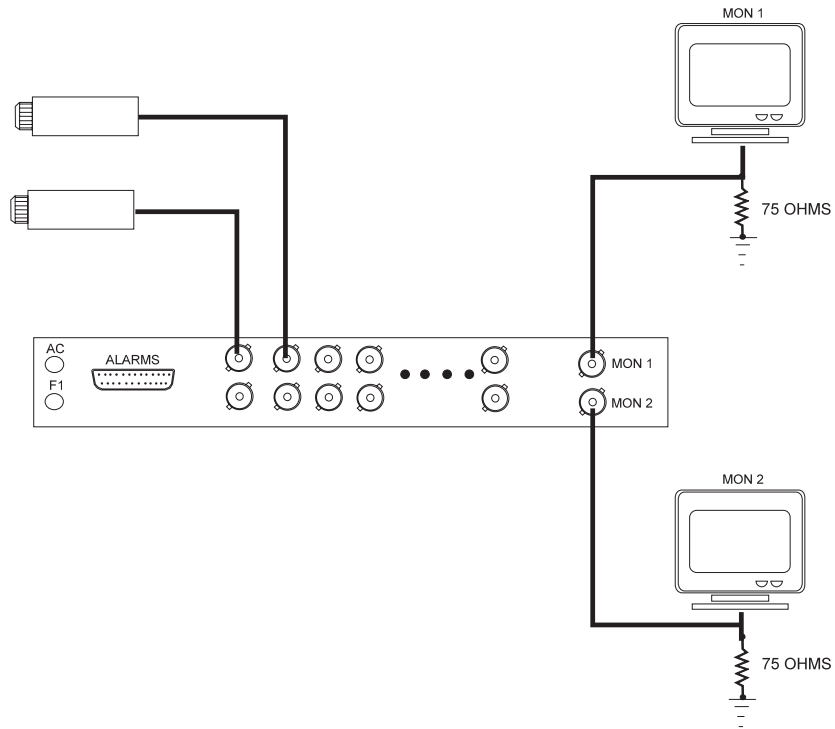

Figure 2. Fixed Cameras with Terminated Inputs
5. Make all equipment connections to the switcher. Refer to Figure 2. Refer to Table B for the type of coaxial cable to use. Only MON 2 output is Coaxitron compatible.